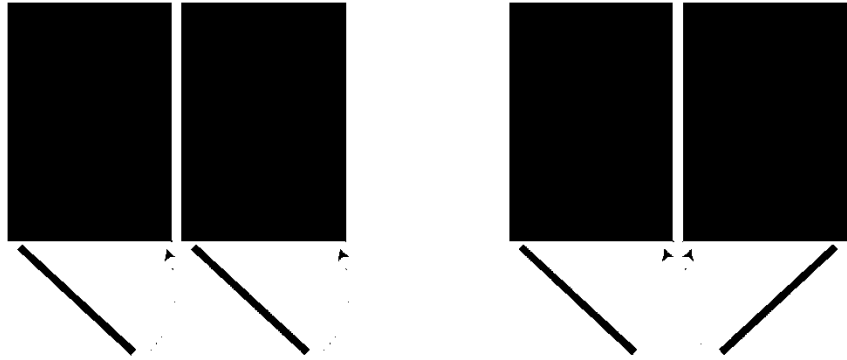

Figure 3. Alternate Configurations for Rear Doors
4. Decide how the rear doors (and front doors, if present) should be mounted: so that both doors open from the right (the default), or that they swing open from the center. If you want center-opening doors, remount the hinges and latch catches as described in the next inside hinges which are no longer supported by the side panel. (See Figure 3.)
In the standard configuration, a cabinet's rear (and front) doors open from the right. But you can remount the doors on two cabinets so that they swing open from the center when tied together—See Figure 3. (The door on the right-hand cabinet will open from the left, not the right.) To do this, you must follow a special tie-together installation procedure. This section describes the steps you must follow.